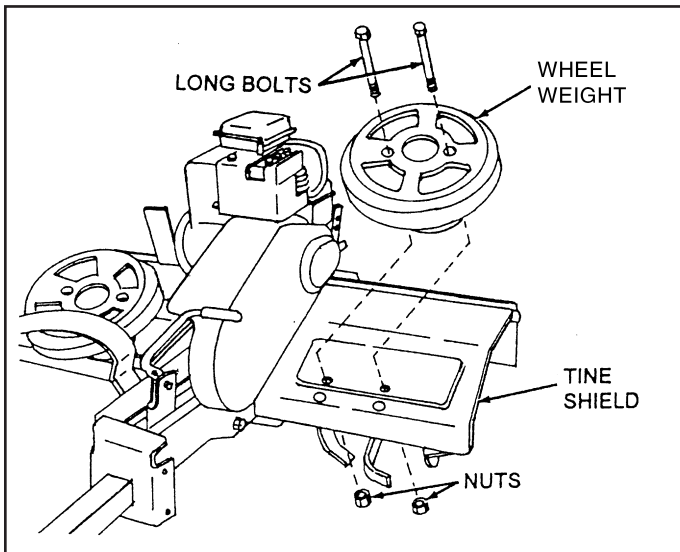

FIG. 4
- Remove two Carriage Bolts and Nuts from each Tine Shield, located approximately 3-1/2" from the front edge. See fig. 4.
- Place (Wheel) Weights on Tine Shield and secure with long Bolts and Nuts furnished with the Weights. See fig. 4.